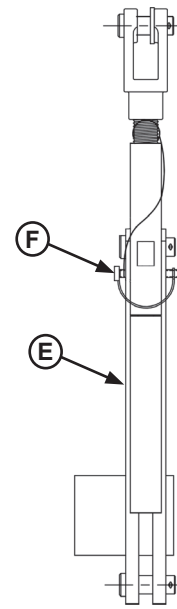

Figure 26
When maintenance is to be performed on the dock leveler, place the maintenance props (C) in their service/down position with hardware (D) tightened by wrench. Ensure the storage prop (E) is locked out with the prop pin and clip (F). See Figures 26 and 27. The lip may fold down if the platform has rested on the maintenance props.